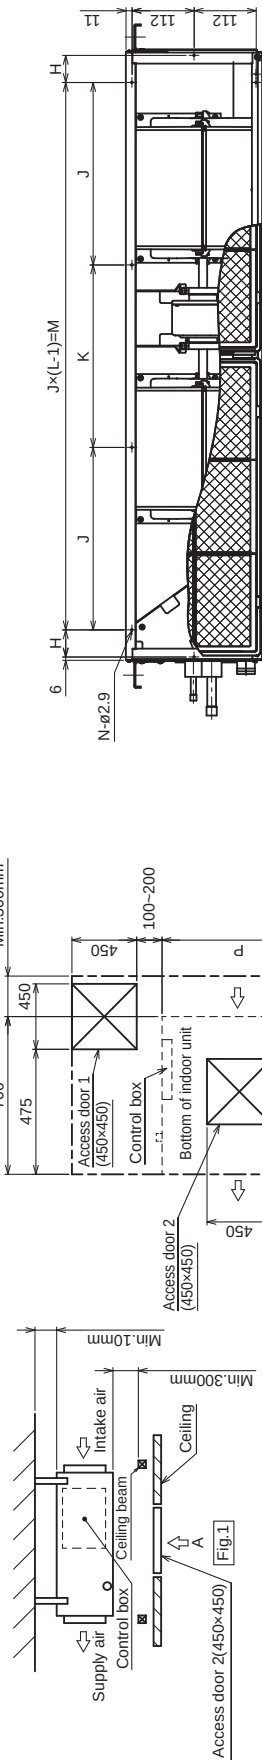

Fig.2 (Viewed from the direction of the arrow A)
- Create access door 1 and 2 (450×450mm each) as shown in Fig.2.
[Fig.2] (Viewed from the direction of the arrow A)